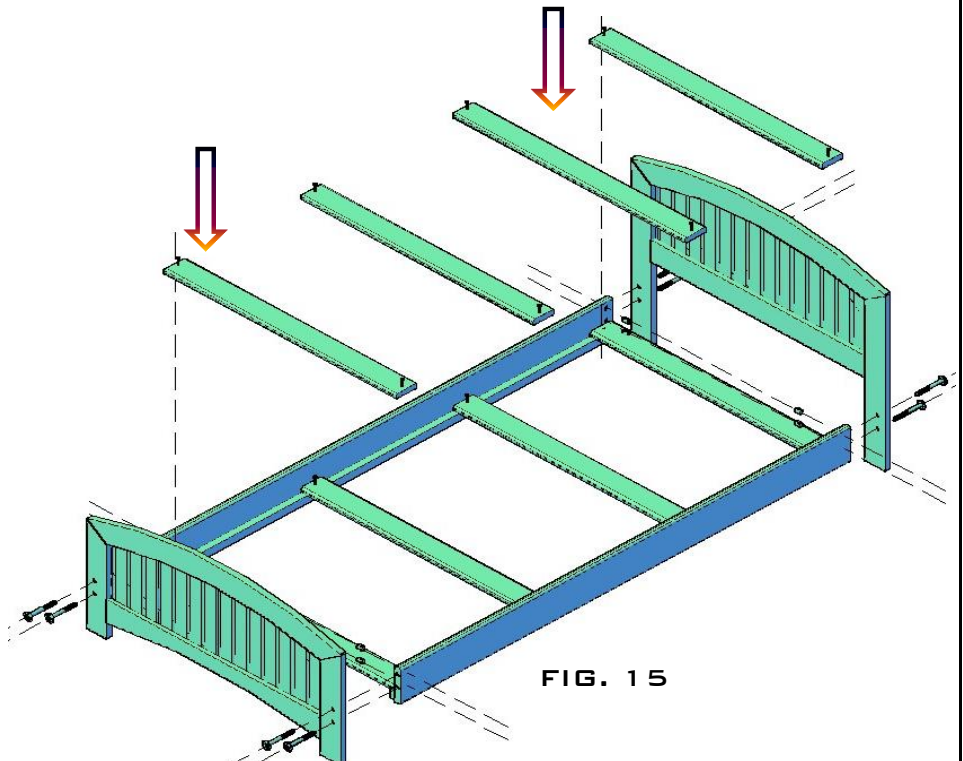

FIG. 15
- 5.- TO ATTACH TO TWIN OVER TWIN ASSEMBLY WITH STEP BUNK BED ASSEMBLY, ALIGNMENT HOLES ON BOTH SIDES, INSERT ONE 35MM BOLT IN BOTTOM HOLE AND ONE 100MM BOLT IN TOP HOLE, THEN INSERT ONE CAP NUT IN BOTH BOLTS AND FASTEN USING ALLEN WRENCH, SEE FIG.15
- 3.- ATTACH TWO SIDE RAILS (M), TO HEADBOARD (U) & FOOTBOARD (V), INSERTING TWO 80MM FLAT HEAD BOLTS (O) INTO TO HEADBOARD & FOOTBOARD HOLES, USE THE 5MM ALLEN WRENCH (K) TO TIGHTEN BOTH FLAT HEAD BOLTS (**DO NOT TIGHTEN COMPLETELY UNTIL ALL PIECES ARE CONNECTED TOGETHER**), REPEAT THE SAME PROCESS AT ALL FOUR CORNERS, SEE FIG.15
- 4.- PLACE FOUR SLATS (S) ON TOP SIDE RAIL CLEATS, ONE SLAT IN BOTH HEADBOARD&FOOTBOARD ENDS, PUSH THE SLATS AGAINST THE BED END POST (FIG.A) AND TWO SLATS IN THE MIDDLE AT EQUAL DISTANCE FROM THE END SLATS, THEN EACH SLAT MUST BE FASTEN WITH ONE 1 1/4" SCREW (T), SEE FIG.15 (**USE ONE 4 PCS SLAT PACK FOR 98-707 (98-645)) AND (USE ONE 4PCS SLAT PACK FOR 98-709 (98-646))**)